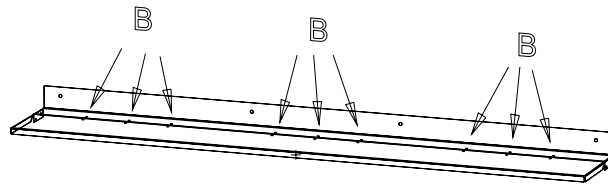

Figure 5
6. Attach Stationary lid and movable lid together with hinges using 10-32 self tapping screws. As shown by "B" in Figure 5.